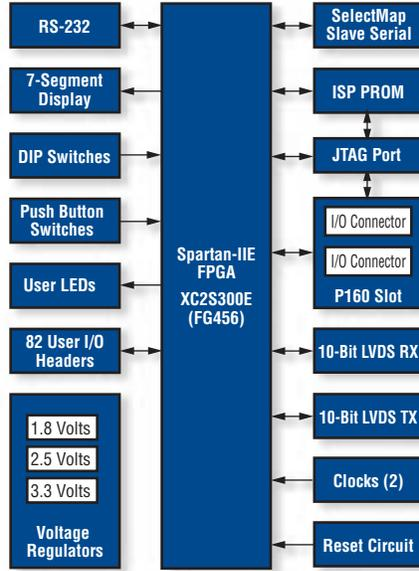

Figure 2 - Spartan-IIE system board block diagram
- The Spartan-IIE system board is based on the 300K-gate XC2S300E device (Figure 2). This board offers a 10-bit LVDS Tx/Rx port and 82 general purpose I/Os.